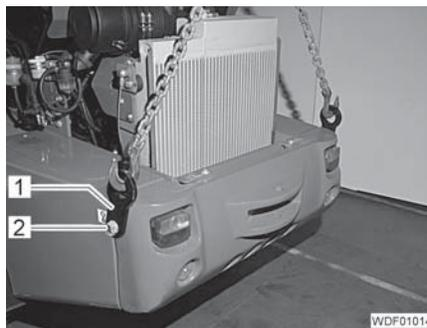

Fig. 276 Securing the rear weight
- Unscrew 1 screw (Fig. 276,2) in each case.
- Rotate the crane eyes (Fig. 276,1) upwards on both sides and tighten 1 screw in each case.
- Rotate the crane eyes (Fig. 276,1) downwards on both sides and tighten 1 screw in each case.